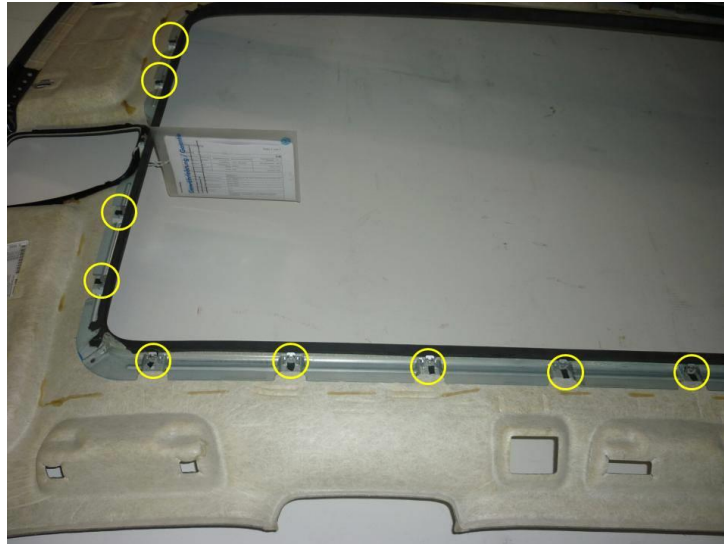

Figure 1. Location of the headliner to sunroof frame clips.
2. Remove the headliner. The clips shown in the illustration will need fleece adhesive tape (D 373125A2) (Figure 1).